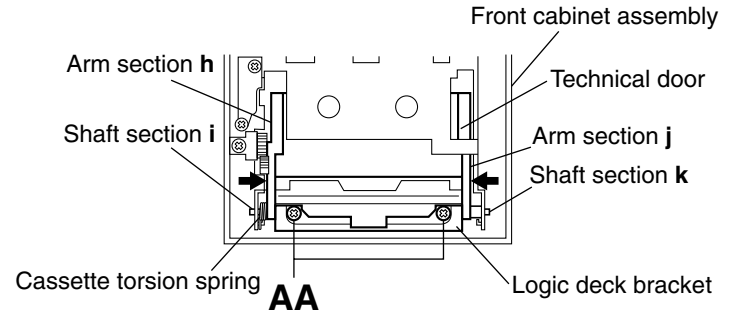

Fig.23
2. From the back side of the front cabinet assembly, remove the two screws **AA** retaining the logic deck bracket. (See Fig.23.)
3. While pushing the arm section **h** of the technical door in the direction of the arrow, remove the shaft section **i** of the technical door from the front cabinet assembly. (See Fig.23.)
4. While pushing the arm section **j** of the technical door in the direction of the arrow, remove the shaft section **k** of the technical door from the front cabinet assembly. (See Fig.23.)